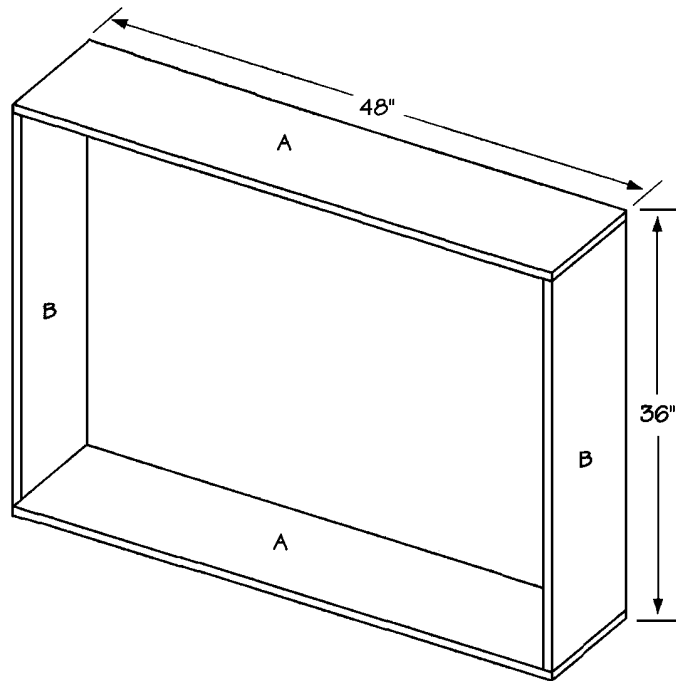

Figure 1
1. Cut two cabinet top/bottom (A) from 1 x 12 pine, each measuring 48 inches long.
2. Cut two cabinet sides (B) from 1 x 12 pine, each measuring 34-1/2 inches long.
3. Place the cabinet top/bottoms (A) parallel to each other, and 34-1/2 inches apart. Fit the two cabinet sides (B) between the two cabinet top/bottoms, to form a rectangle measuring 36 x 48 inches, as shown in *Figure 1*. Screw through the cabinet top/bottoms (A) into the ends of the cabinet sides (B). Use three 1-1/2-inch screws on each of the joints.